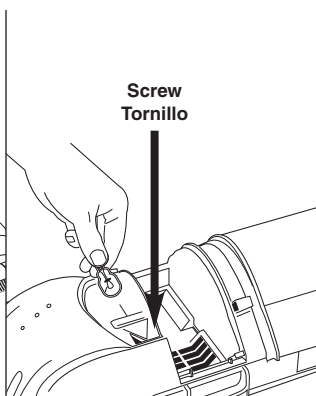

FIG. 28
Step 3: Remove screw from lens cover (FIG. 28).
Paso 3: Quite el tornillo de la tapa de cristal (FIG. 28).